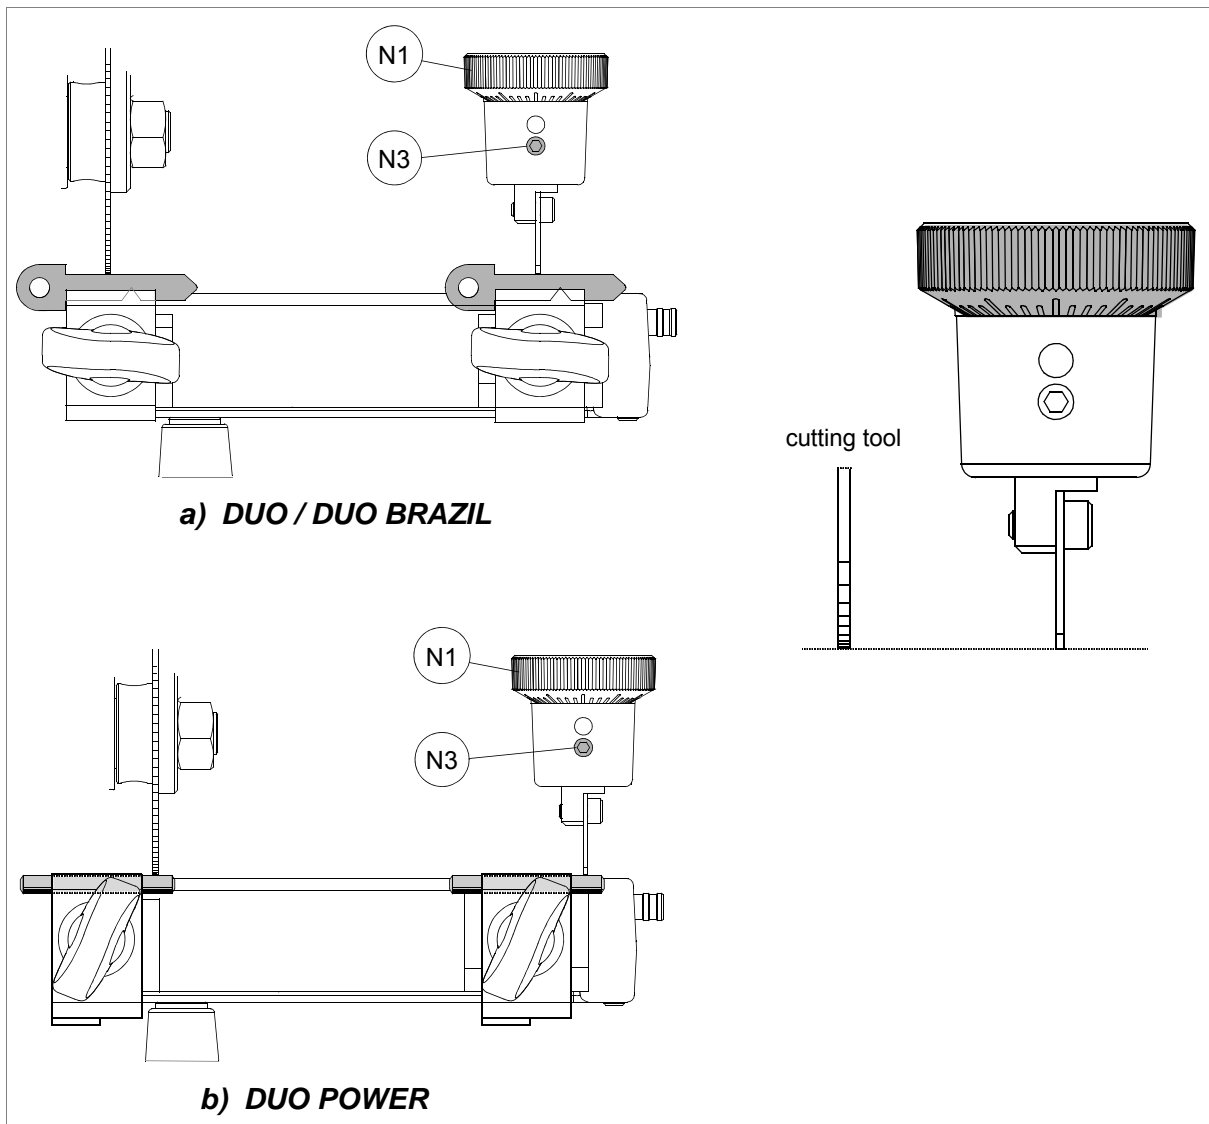

Fig. 20
- 2a) **DUO and DUO BRAZIL:** place the adjusting keys on the clamps (fig. 20-a) on the 2nd side for mail box keys - fig. 38);
- 2b) **DUO POWER:** place the adjusting pins on the clamps (fig. 20-b) on the 1st side for bit/double bit keys - fig. 39).
- 3) Lock the clamps in the horizontal position by means of the pin (L);
- 4) Raise the carriage and take the adjusting keys (or pins) into contact with the tracer point and cutting tool (fig. 20).